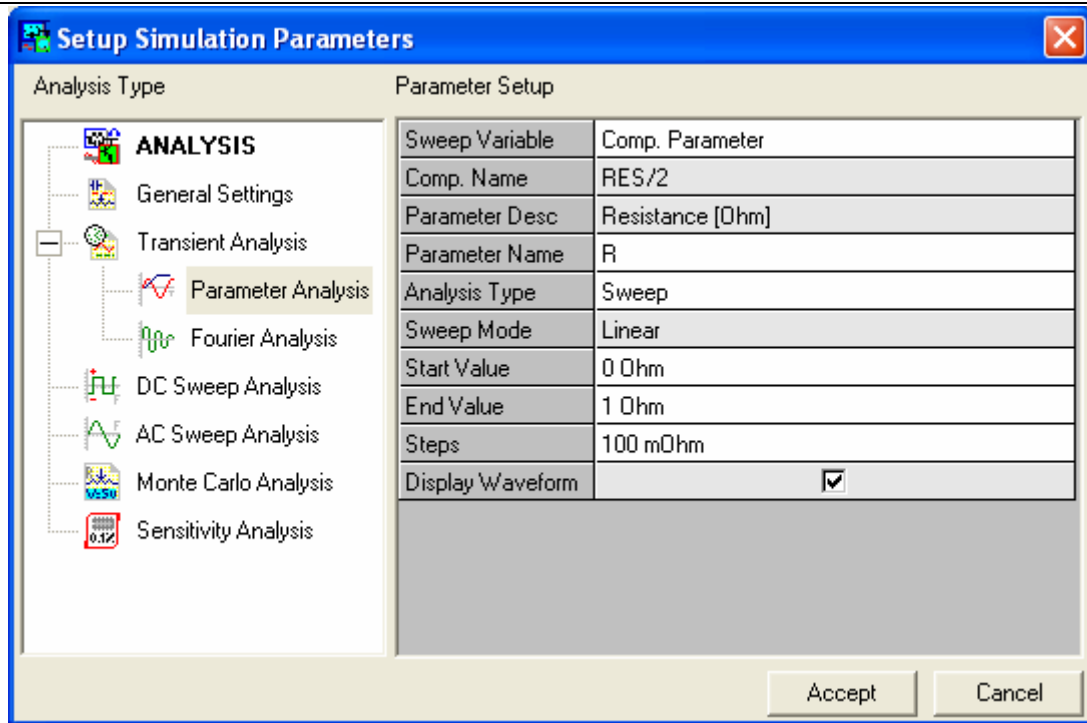

Fig 6.5
Mixed Mode Simulator can simulate analog, digital as well as a combination of analog-digital circuits. It is de facto that an analog simulator equipped with a logic simulation engine models the digital parts of a circuit during the Time Domain (TD) Transient Analysis. The commonly used analyses by this simulator are: (Refer Fig.6.5)